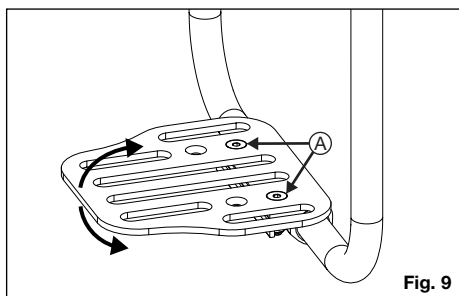

Fig. 9
- Loosen the two screws (Fig. 9:A) on the top of the footrest using a 4 mm Allen wrench. There are nylock nuts recessed on the underside of the clamp. Be sure to prevent these from falling as you loosen the screws.
- Rotate the footrest to the desired angle and secure it in place by retightening the two screws (Fig. 9:A).